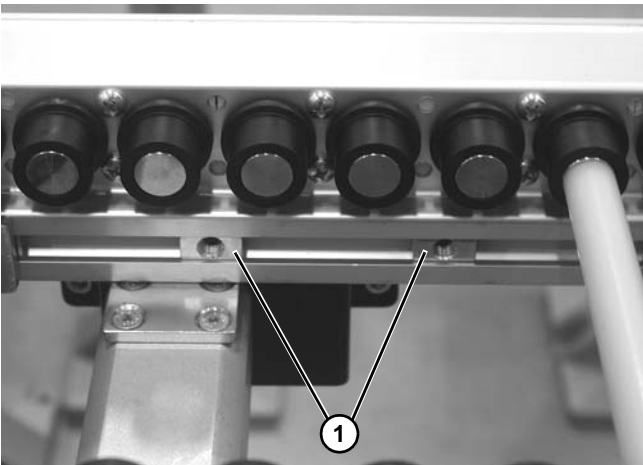

Figure 45
1. For pallet sizes under 240x240, install two spring nuts (**Figure 45, item 1**) in inner T-slot on both sides of the conveyor.